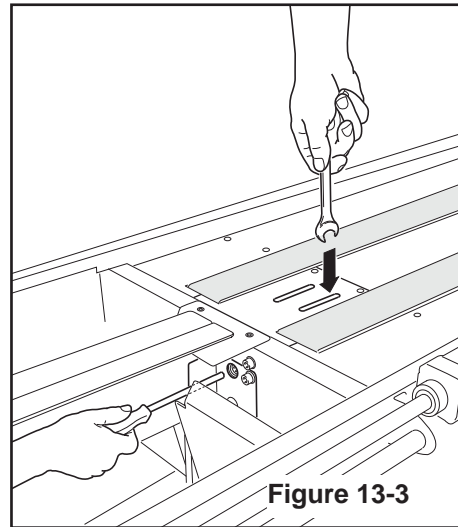

Figure 13-3
1. Using a 17mm open-end wrench, loosen, but do not remove the lock nut as shown in **Figure 13-3**.